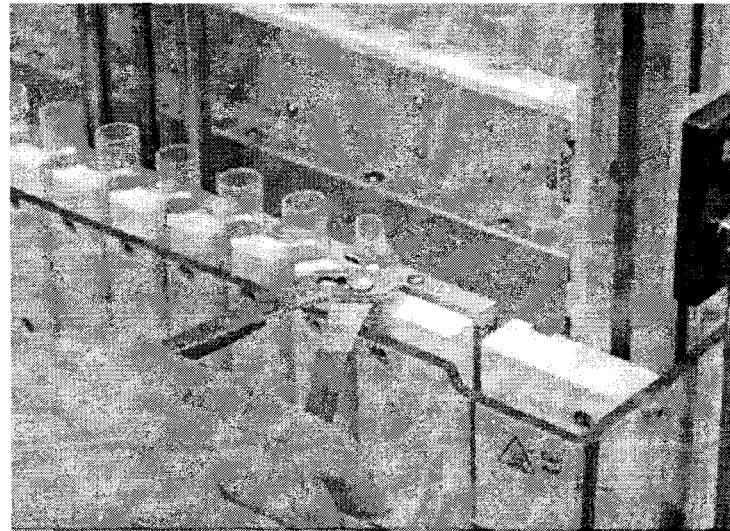

Figure 4. Grasp the top of the RV with the RV extraction tool
2. Using the RV extraction tool (red pliers) supplied in the Quest starter kit, remove the old RVs (RVs 1-10, Side A). To remove the RV, grasp the top of the RV (**Figure 4**)